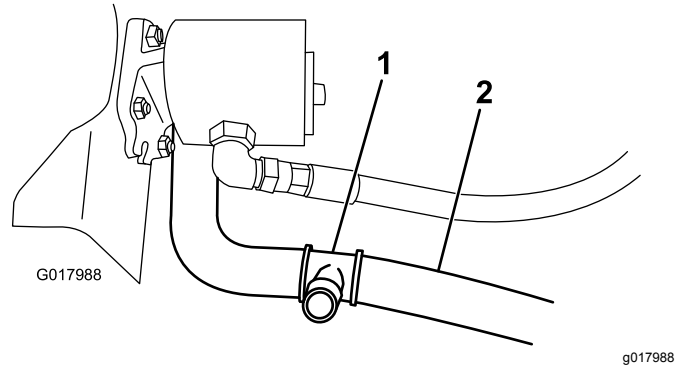

Figure 17
2. Cut the lower radiator hose approximately 89 mm or 3-1/2 inches from the center line of the hose at the 90° bend (Figure 17).
3. Connect the tee fitting to each newly cut end of the lower radiator hose with the 2 wide hose clamps (Figure 17).